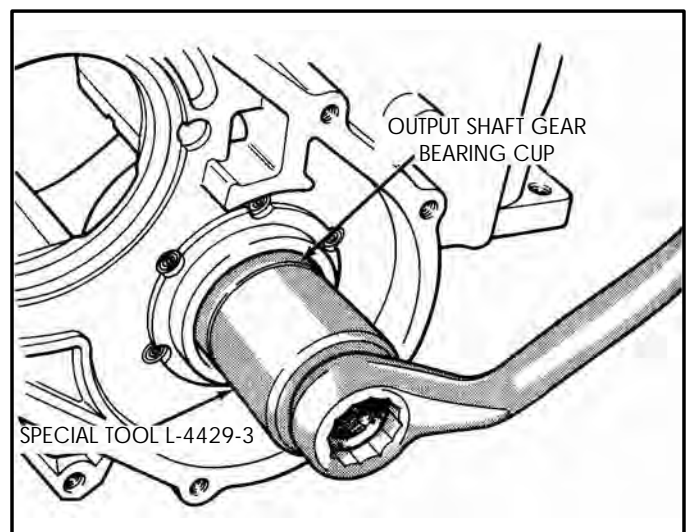

Figure 172
9. Install new output shaft gear bearing cup into case using special tool L-4429-3, as shown in Figure 172.